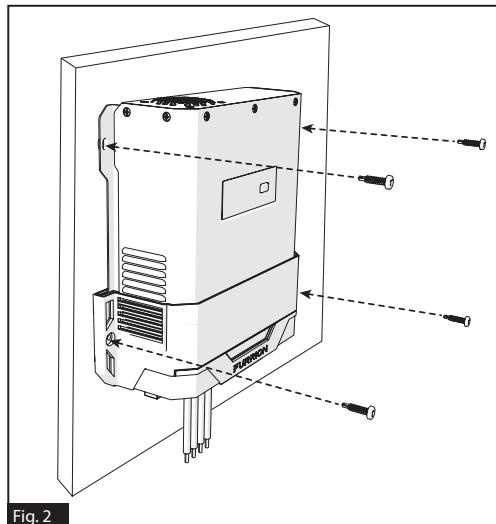

Fig. 2
- Affix MPPT controller to the wall with 4 mounting screws (not included). (Figure 2)